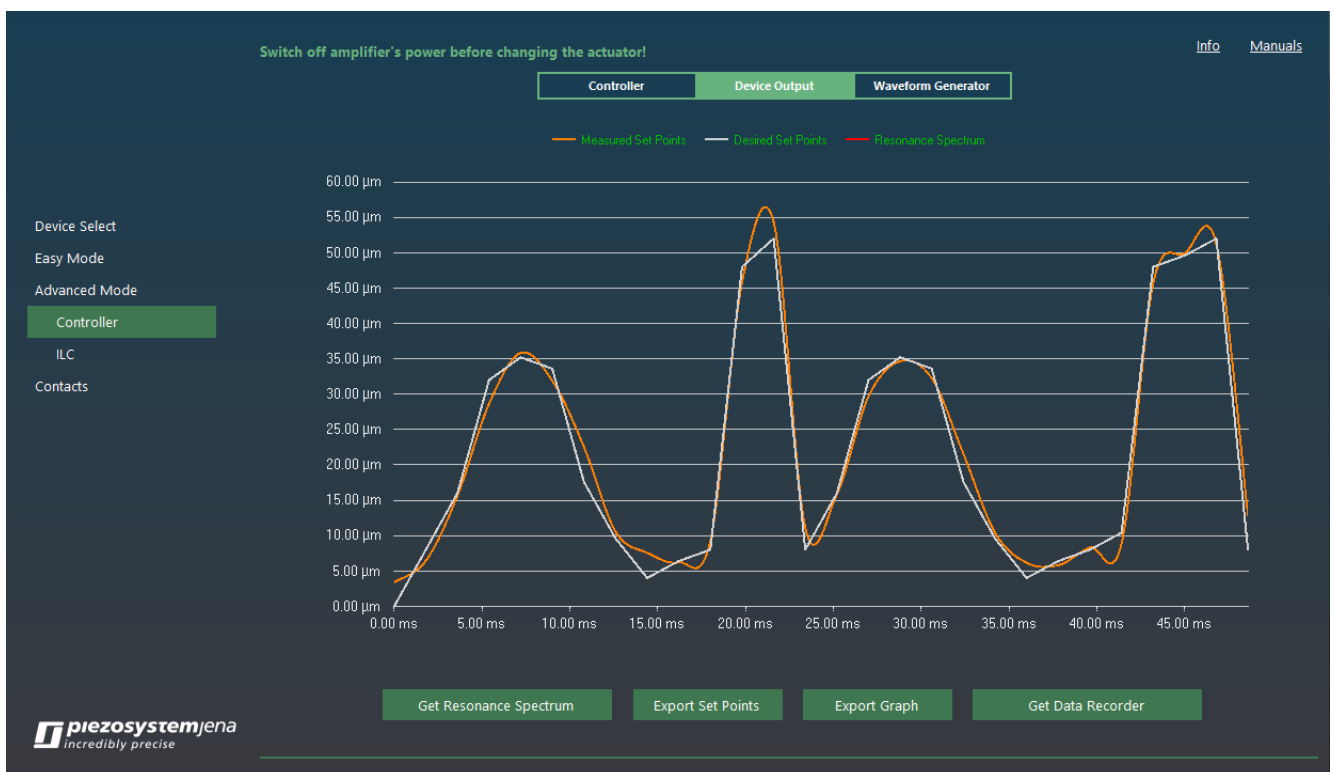

Figure 13 Amplifier feedback of the arbitrary waveform movement
- To get the **measurements** – switch to **Device Output** again and press the **Get Data Recorder** button (**Figure 13**).